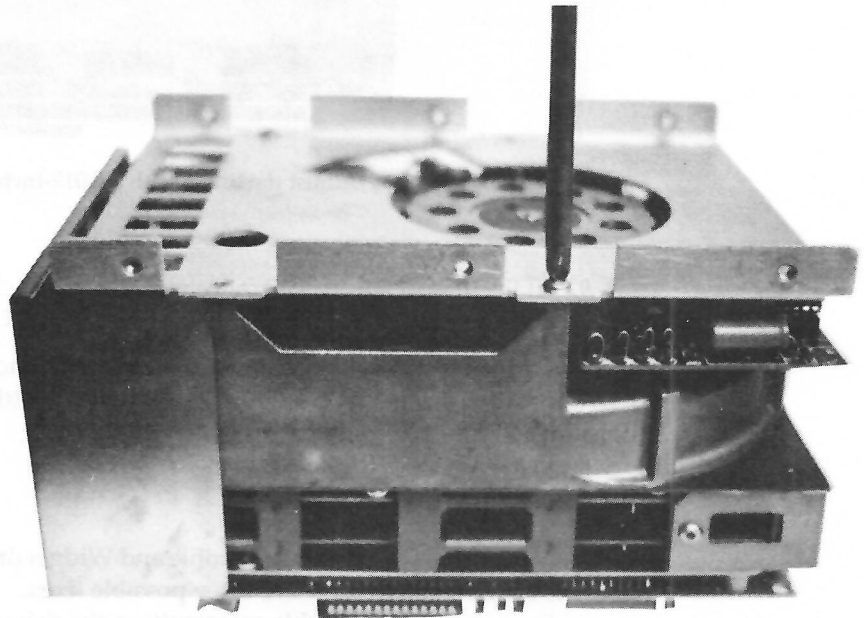

Figure 13-25 Four screws hold the sheet metal support bracket.
7. Use a #2 Phillips-head screwdriver to remove four screws from the sheet metal support bracket as shown in Figure 13-25. Lift the bracket away and put it aside.